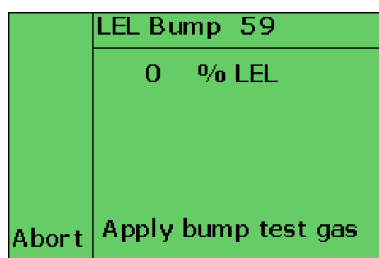

Figure 74: LEL Bump Counter
2. When warm-up is complete, the LEL Bump Test screen appears and a 60-second countdown begins (as shown in Figure 74: LEL Bump Counter).